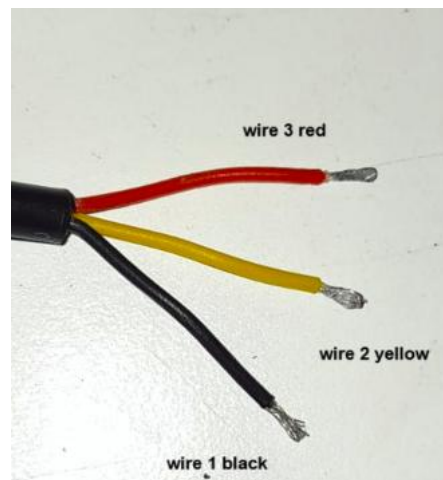

Figure 7b: IP68 pumps (GEN004PUMOP***, GEN005PUMOP***) speed control wires
- Figure 7b: IP68 pump wiring diagram